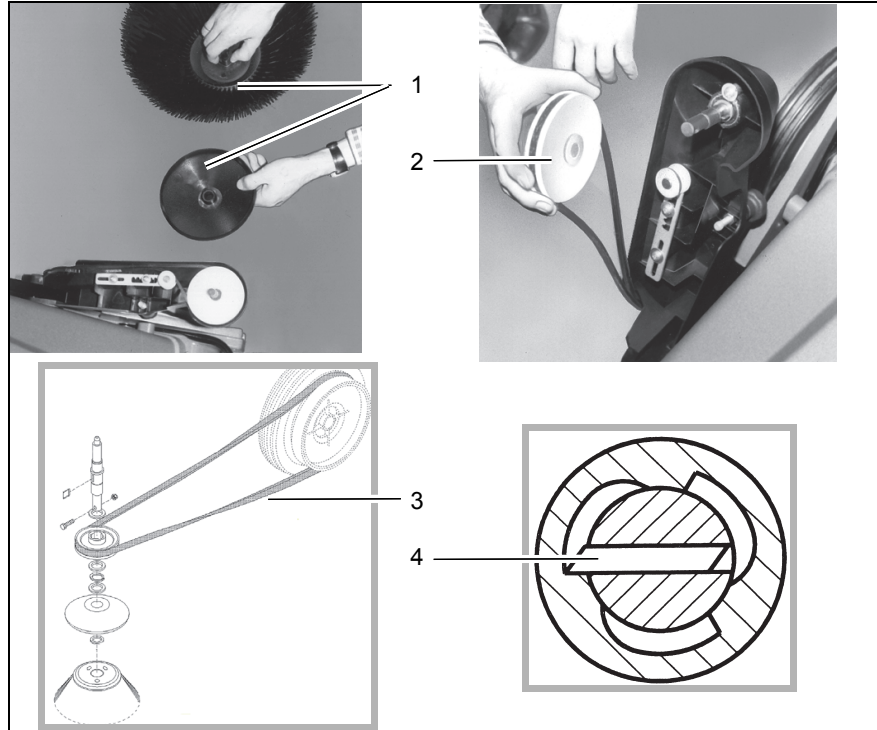

Fig. 7
1. Dismantle the side broom and deflector plate with all standard parts up to the pulley (Fig. 7/1).
2. Remove pulley with Vee belt (Fig. 7/2) off the shaft (driving key should not drop out from the shaft).
3. Fit new Vee belt on the pulley and re-assemble parts in reverse order (Fig. 7/3).
Note: After having assembled the pulley, check for driving key in place (Fig. 7/4).